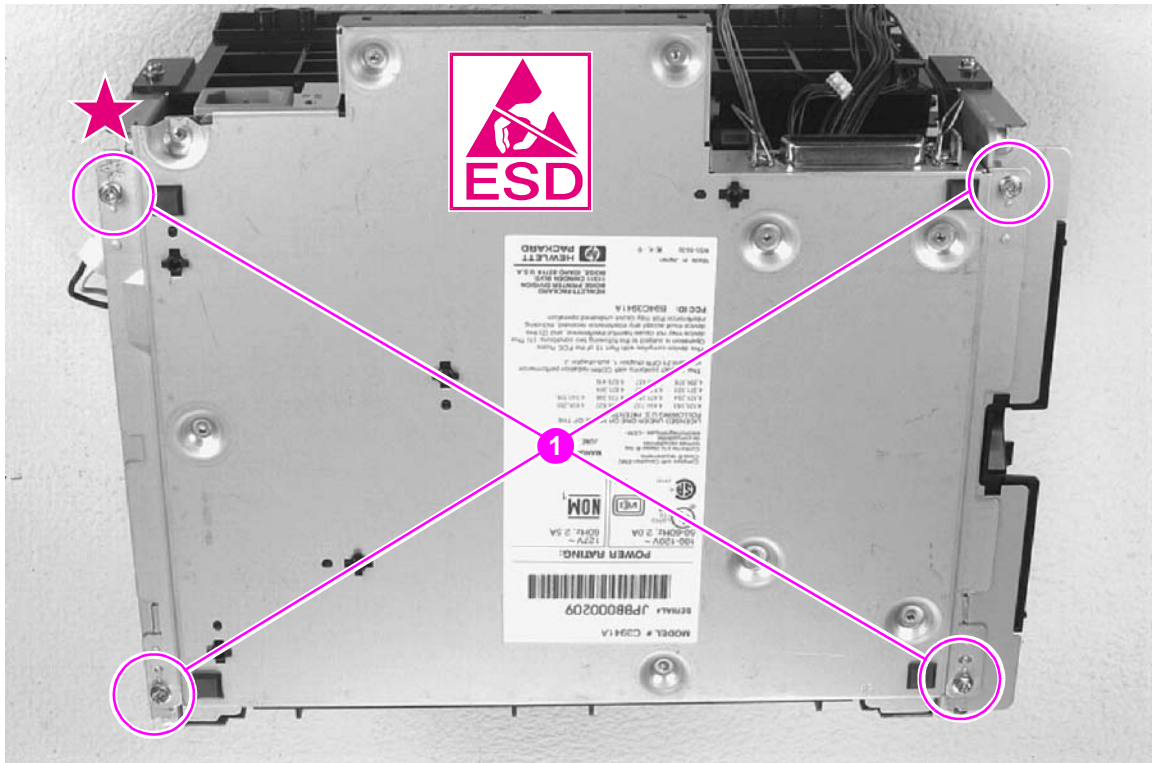

Figure 6-40 DC Controller removal (1 of 3)
- 7 Remove the (4) screws (Figure 6-40, callout 1). On some models, one of the screws is a grounding screw. The location of the grounding screw is marked by a “star” etched into the bottom of the DC Controller.
- 1 Remove the Printer Covers and complete the DC Controller removal direction up to step 8 (Figures 6-40 and 6-41).